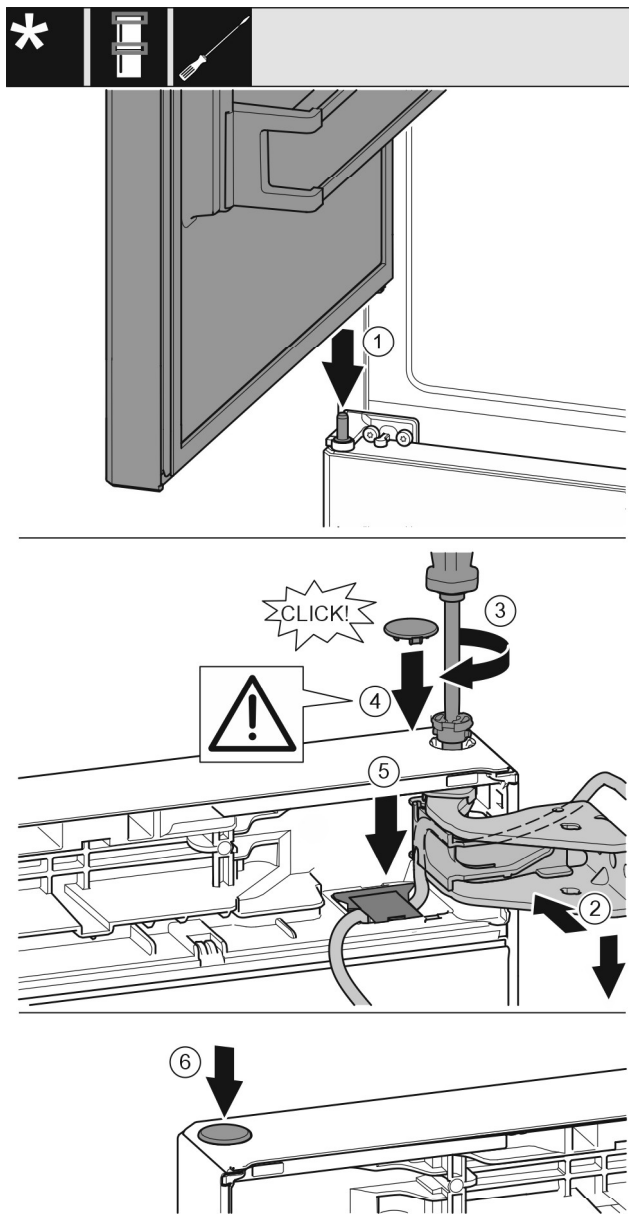

Fig. 42
- ▶ Position to top door onto the center bearing pin Fig. 42 (1).
- ▶ Align the top of the door with opening in the bearing bracket. Fig. 42 (2)
- ▶ Insert the pin Fig. 42 (3) and tighten it with the screwdriver.
- ▶ Mount the safety cover Fig. 42 (4) to protect the door: Insert the safety cover and check whether it is positioned on the door. If so, insert the pin completely.
- ▶ Insert the cover Fig. 42 (5) and press it down until it snaps down.
- ▶ Insert the plug Fig. 42 (6).